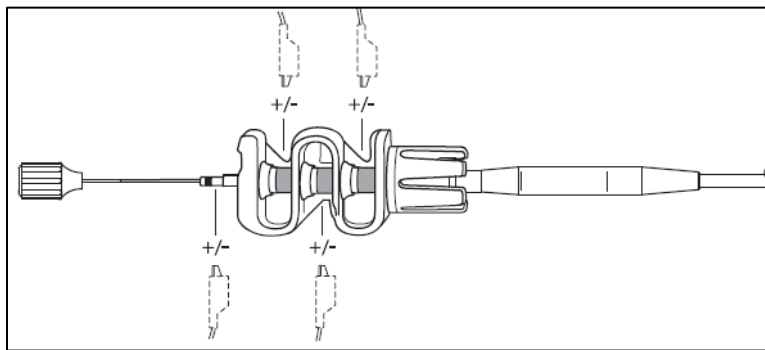

Figure 3. Connection Diagram for Pacing Leads, type IS4
1. Connect the black (-) clip to the desired cathode (Figure 3).
2. Connect the corresponding red (+) clip to the desired anode (Figure 3).